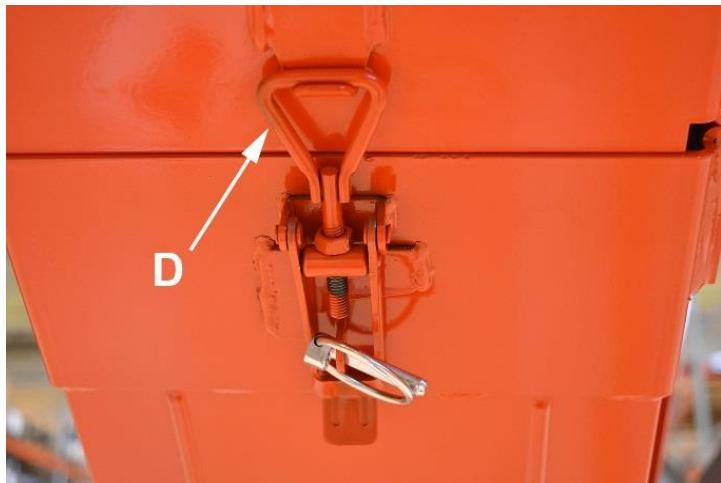

Figure 4d.
- Use a winch to lift the conveyor to the desired angle (max 40°) and lock the upper section of the out-feed conveyor to the operating position using lock D (Figure 4d).